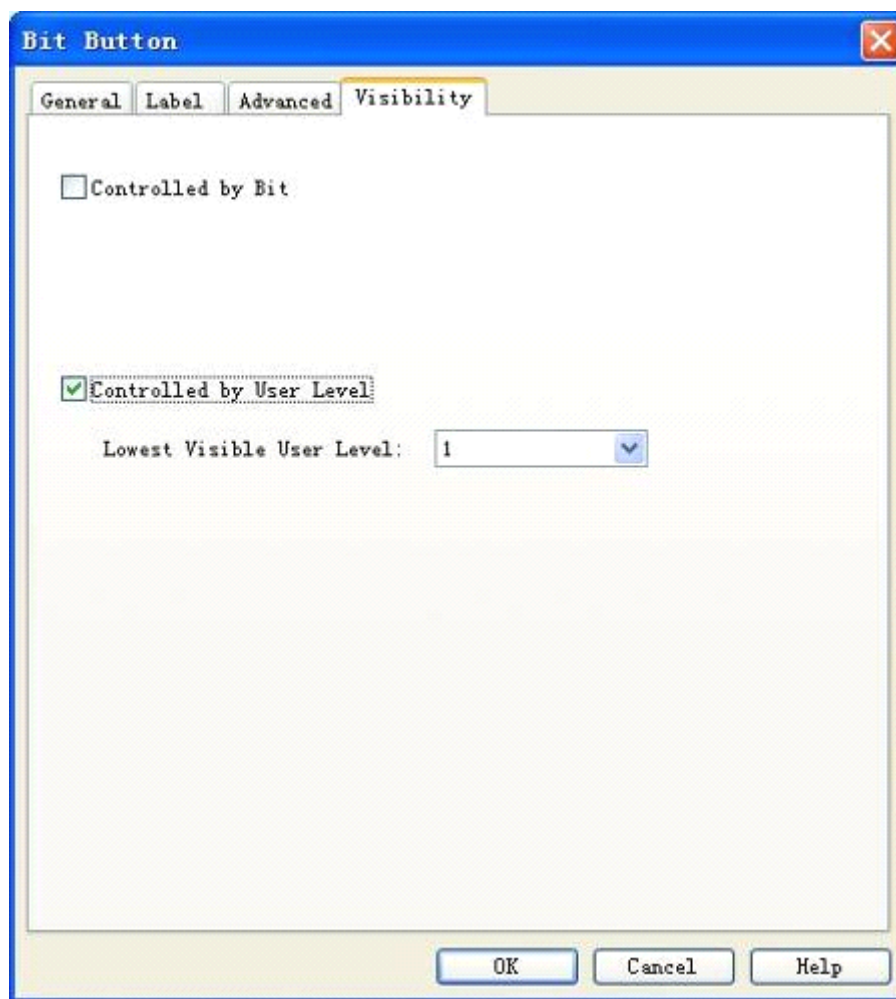

Figure 4-58: Visibility tab of Bit Button
- Visibility page will be displayed after you click Visibility tab. This page is mainly used to set whether to display or hide the control. See Figure 4-58.